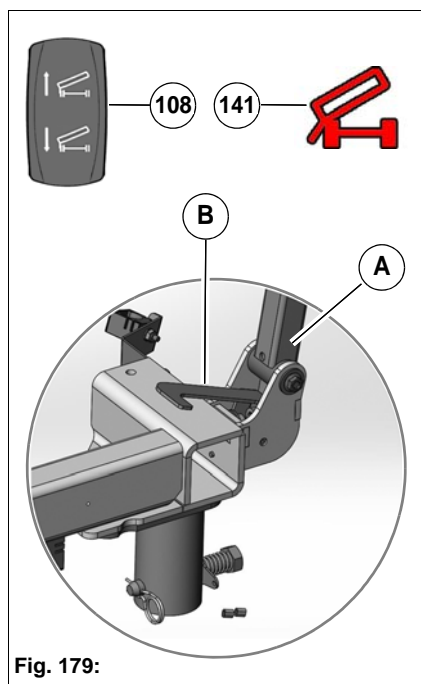

Fig. 179:
2. Lower the dirt hopper with the tip switch **Fig. 179-108** until the safety strut **Fig. 179-A** engages.
2. Unlock the safety strut with the lever **Fig. 179-B**.